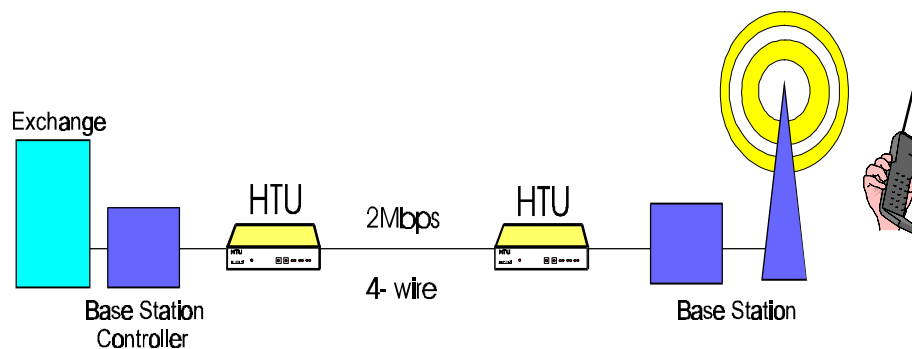

Fig.3, typical application
- E1 connections between base station controller and base station in GSM and other mobile and cellular networks.(see Fig.3)